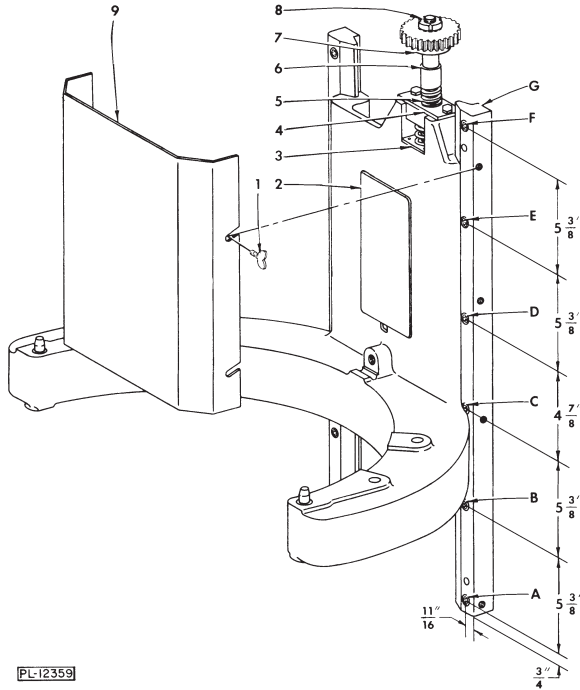

Fig. 3
The mixer should be cleaned daily; the exterior of the machine, bowls, agitators and accessories. The special base allows ample room to clean under the mixer. The bowl support apron (9, Fig. 3) has slots which permit easy removal by loosening the thumb screws. Behind this apron is an access cover (2, Fig. 3) which may be removed for cleaning.
To remove the bowl support, it is necessary to take off the right-hand slideway (G, Fig. 3).
1. Remove the apron. It is held by four thumb screws (1, Fig. 3).
3. Run the bowl support all the way down and remove the bowl lift nut retainer (4, Fig. 3). Then run the nut back up the screw.
4. Pry the spring seat (3, Fig. 3) up off the pins.
End play adjustment in the bowl lift screw (5, Fig. 3) is provided by the lock nut (8, Fig. 3). Upward thrust on the lift screw is taken by a shoulder (6, Fig. 3) which bears against the transmission case; downward thrust is taken by the permanently-sealed ball bearing (7, Fig. 3). A minimum of .005" end play should be allowed.